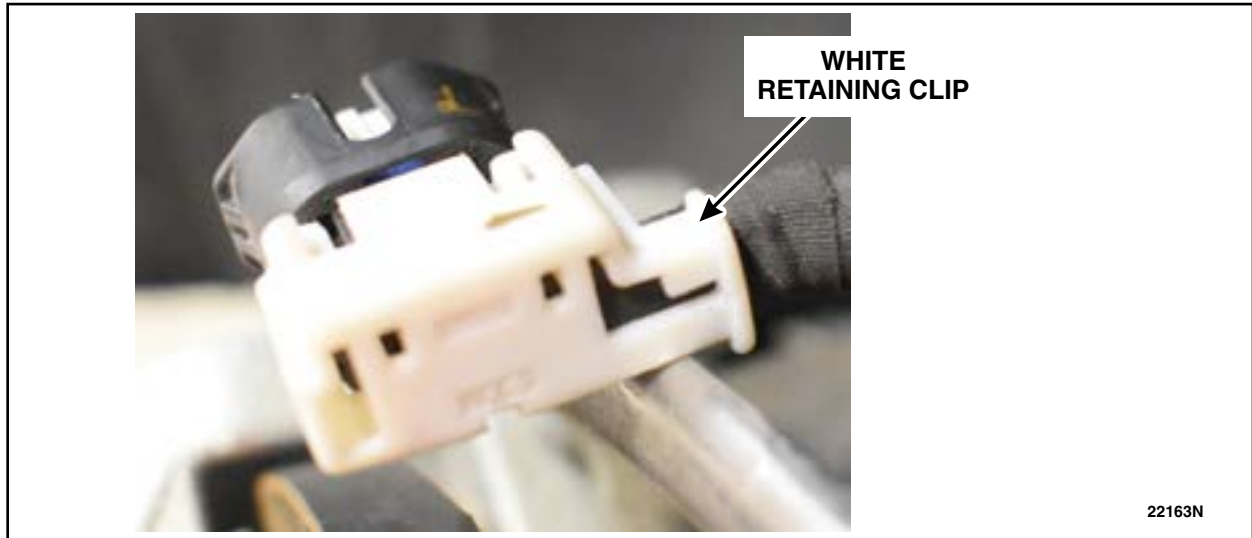

FIGURE 13
16. Reinstall the white retaining clip and be sure that it clips firmly into place. See Figure 13.